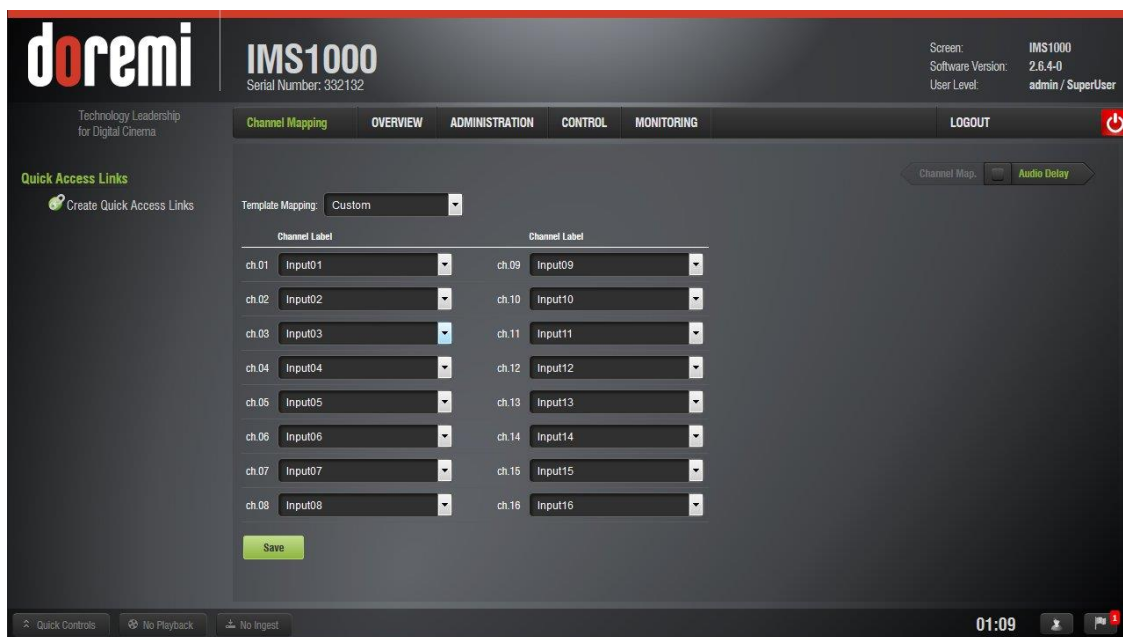

Figure 121: Custom Mapping
- The following window will appear (Figure 121):